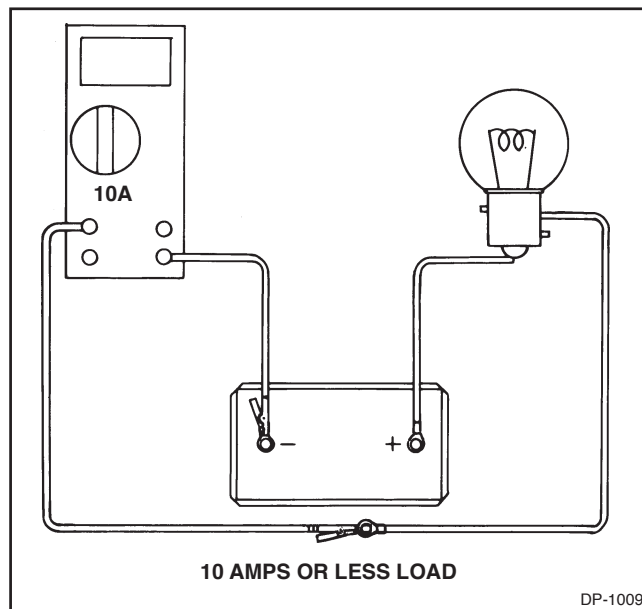

Figure 1-9. In-Line Digital Ammeter
**1-19. AMMETER USE.** Figures 1-9 through 1-11 illustrate the use of various types of ammeters.
1. Figure 1-9 illustrates the use of an in-line digital ammeter. Note that the circuit must be disconnected in order to use this type of meter. The unit shown is an internal shunt type and generally used for loads of 10 amps or less. Care must be taken not to measure current greater than the meter rating. This type of ammeter is not recommended for most of the measurements described in this manual. However, if this is the only type available, be sure to follow the meter manufacturer's instructions for connection and use.